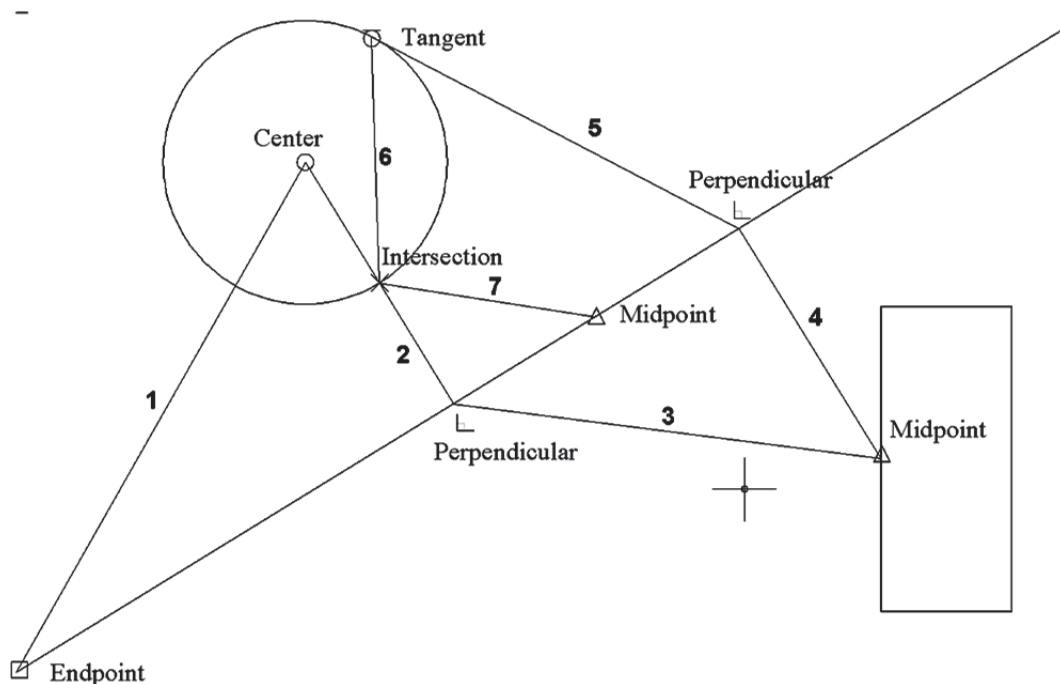

FIGURE 2-2.7 Several lines added using running OSNAPs.
- Draw the additional lines shown in **Figure 2-2.7** using the appropriate *Object Snap* (changing the *Running Snap* as required to select the required point).